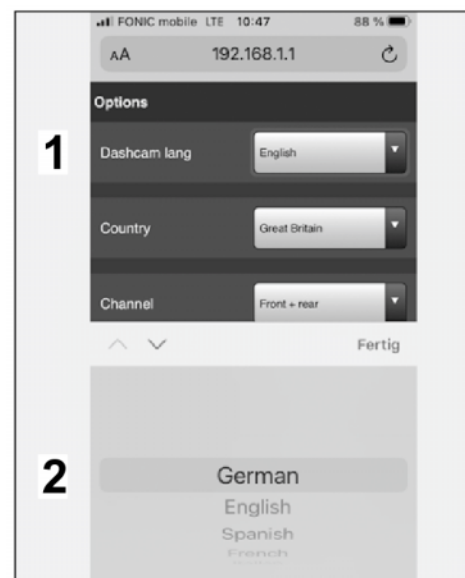

Figure 28
5.3 Basic settings for front camera (dashcam) in the "Options" (⇒ *Figure 28*) menu item
Example: German (⇒ *Figure 28*)